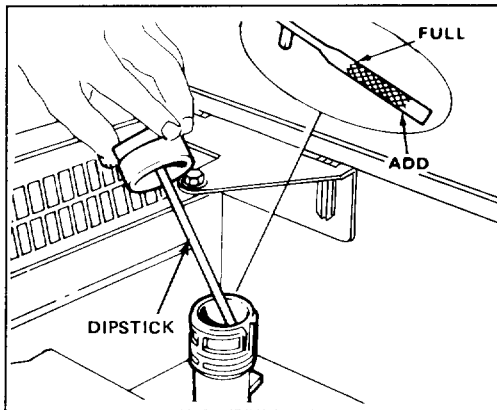

Figure 6
Before each use, assure oil level is between ADD and FULL marks on dipstick (Fig. 6). Add oil if level is low.
1. Position mower on a level surface and clean around oil dipstick (Fig. 6).
3. Wipe dipstick and insert it into filler neck. Rotate cap clockwise 1/4 turn. Then remove dipstick and check level of oil (Fig. 6). If level is low, add only enough oil to raise level to FULL mark on dipstick. DO NOT FILL ABOVE FULL
1. **CHECK OIL LEVEL**—Maintain oil level between ADD and FULL marks as shown on dipstick (Fig. 6).